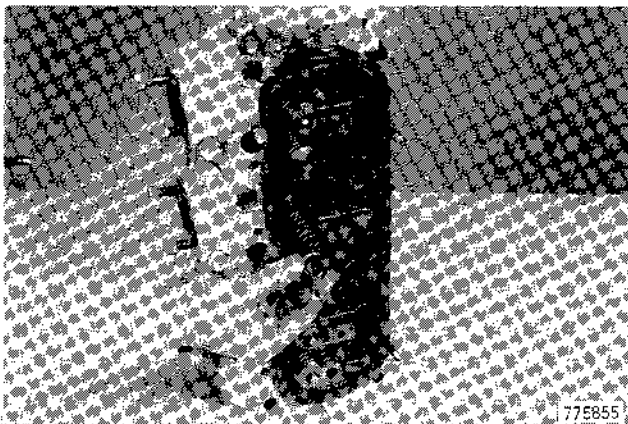

Figure 125
3. Install the spring cup on the valve stem, Figure 125.